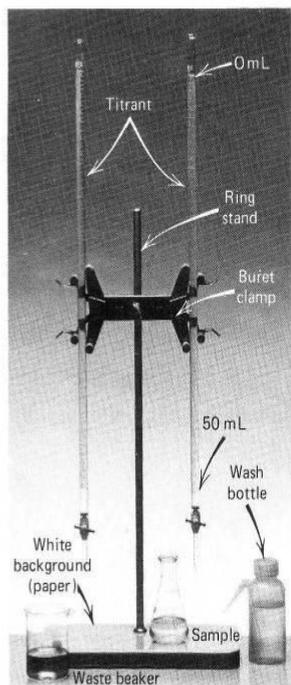

Figure T.16f Setup for a titration analysis.
1. **Preparation of the Buret.** See Technique 2 for cleaning glassware. If a buret brush is needed, be careful to avoid scratching the buret wall with the wire handle. Once the buret is judged to be “clean,” close the stopcock. Rinse the buret with several 3- to 5-mL portions of water and then **titrant**. Tilt and roll the barrel of the buret so that the rinse comes into contact with the entire inner wall. Drain each rinse through the buret tip into the waste beaker. Dispose of the rinse as advised in the experiment. Support the buret with a buret clamp (Figure T.16f).